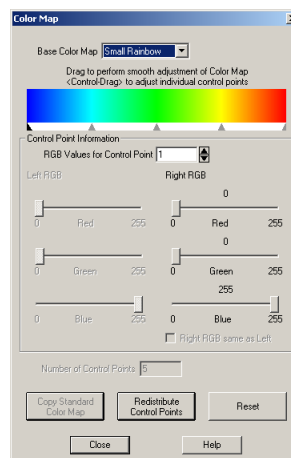

Figure 10-17. The Color Map dialog.
1. From the Workspace menu, choose Color Map. The ColorMap dialog appears, as shown in Figure 10-17.